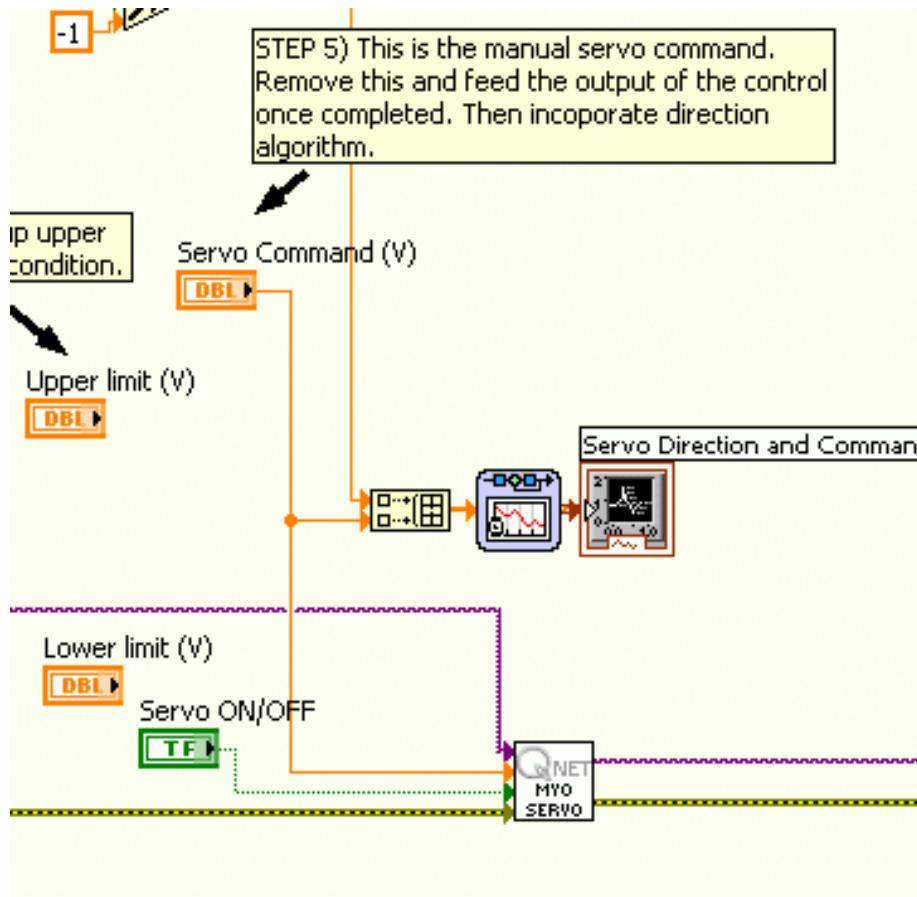

Figure 4.9: Disconnect manual servo command and use output of integrator
9. Disconnect the *Servo Command (V)* control and wire the integrator output instead as shown in Figure 4.9. This should be connected to the *Servo Direction* and *Command* chart (second input of cluster) and the *Servo (V)* terminal on the *QNET_MYOELECTRIC_Servo_Write* sub-VI. Also, make sure the direction from the *Manual Direction* control is plotted on the *Servo Direction* and *Command* chart (first input of cluster). Attach an image of the block diagram.